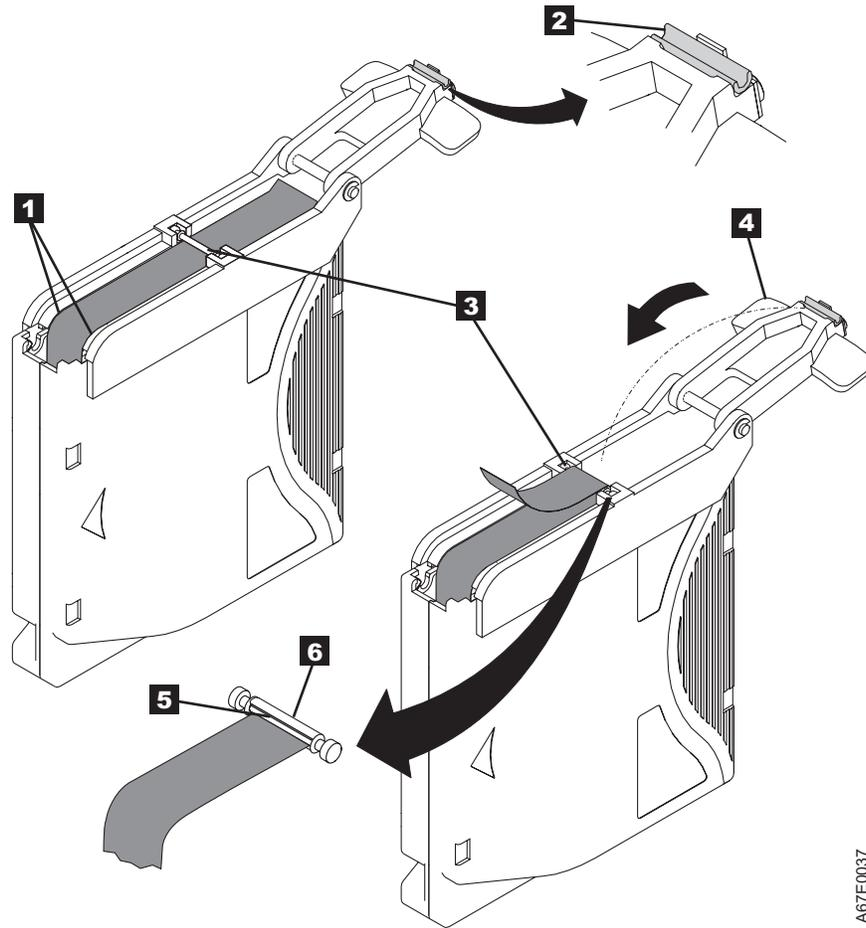

Figure 57. Attaching the leader pin to the tape
7. Position the tape in the alignment groove of the leader pin attach tool (see **1** in Figure 57 on page 255).
Attention: To prevent the leader pin from rolling into the cartridge, in this step, use care when folding the tape over the pin. Fold the tape over the leader pin and hold it with your fingers (see Figure 57 on page 255).